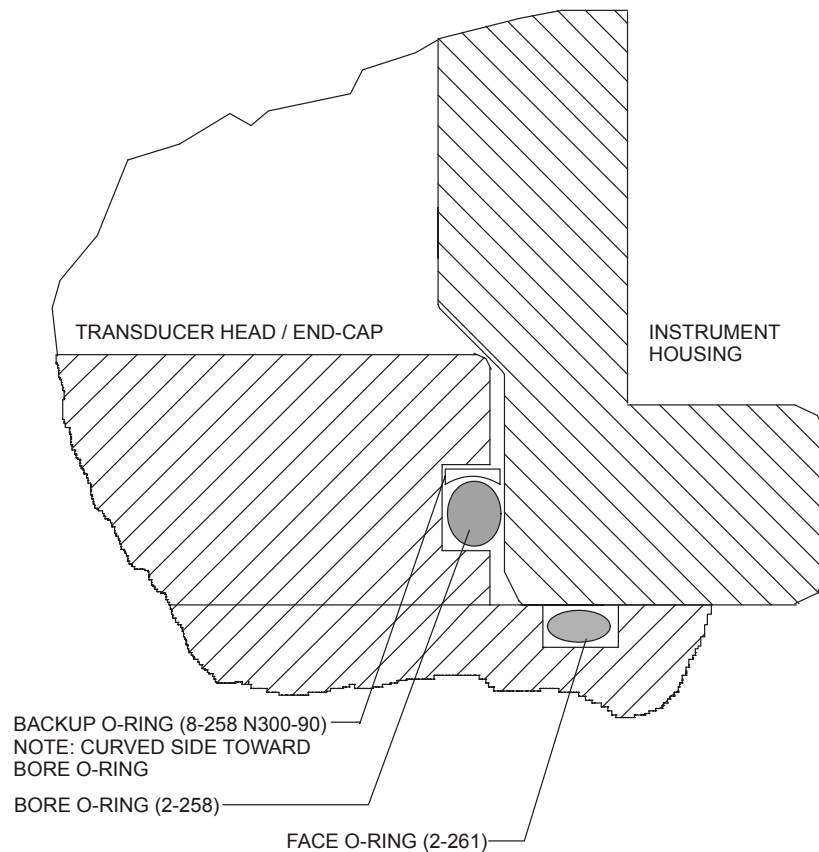

Figure 37. High Pressure O-Ring Detail View
- d. The backup O-ring (see Figure 37, page 86) is installed in addition to the 2-258 bore O-ring on the transducer head assembly for 1000, 3000, and 6000-meter high-pressure systems only. Install the backup O-ring with the cupped side facing the 2-258 bore seal O-ring.